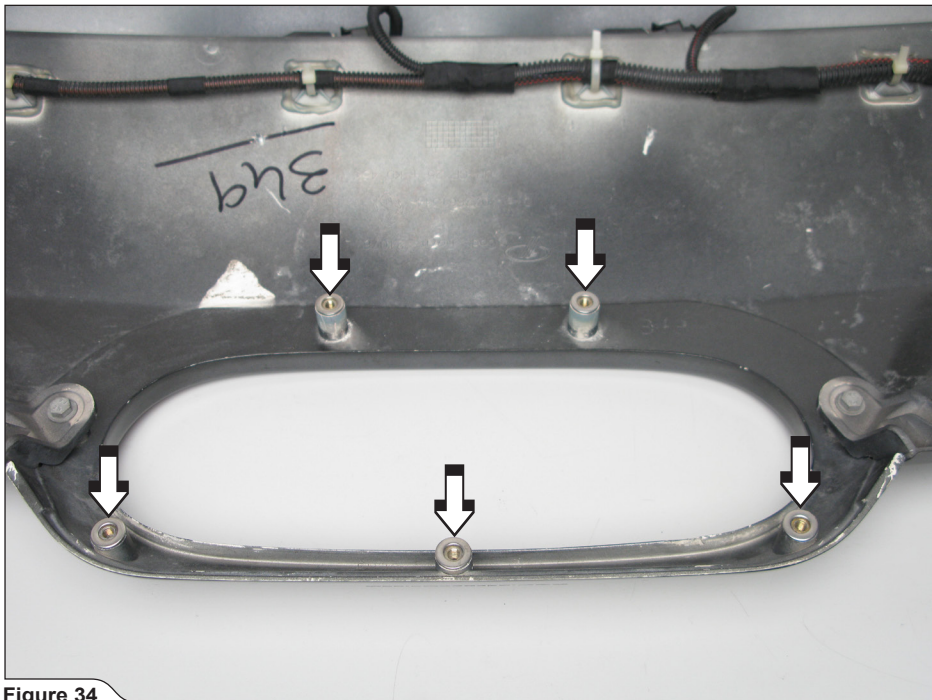

Figure 34
15. **For Slip-On and optional Link Pipes:** put the washers from installation kit, onto the rear bumper's Tail Pipe brackets (**Figure 34**).